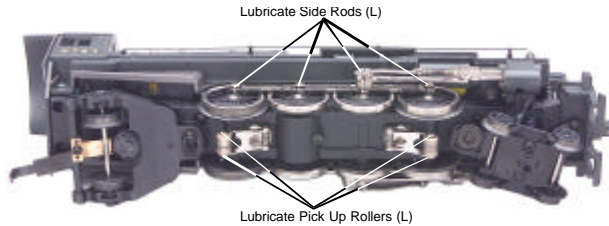
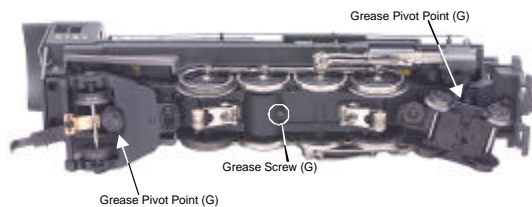
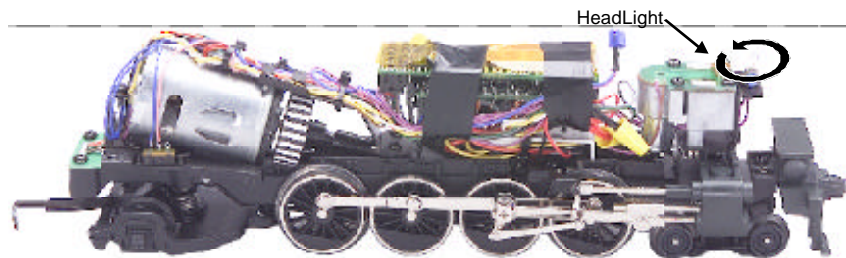

Figure 2. Lubrication Points on the Engine
Figure 3. Greasing Points on the Engine and Body Mounting Screws
Figure 7. Replacing the Headlight
3. You should lubricate all side rods and linkage components and pickup rollers to prevent them from squeaking. Lightly grease the outside idler and drive gears (marked “G” in Fig. 3 on page 10) to prevent them from squeaking. Use light household oil and follow the lubrication points marked “L” in Fig. 2 on p. 10. Do not over-oil. Use only a drop or two on each pivot point.
You should regularly lubricate all side rods and linkage components and pickup rollers to prevent them from squeaking. Use light household oil and follow the lubrication points marked “L” in Fig. 2. Do not over oil. Use only a drop or two on each pivot point.
You should also grease the trailing locomotive truck tongue to enhance their ability to slide on the chassis. Follow the grease points shown on Fig. 3.
Remove the locomotive boiler from its chassis as shown in Figure 3. Once the body has been removed, rotate the headlight bulb counter-clockwise as seen in Figure 7 to remove.